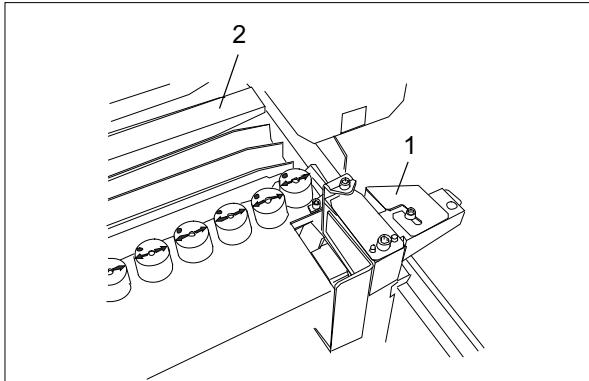

Fig. 41 Register table
If the sheet is less than 18 cm wide, you must detach the paper guide plate (Fig. 41/1) from the alignment rail. An appropriate information will appear on the display.
3. Place one of the rods (Fig. 41/2) in front of the suction wheel.